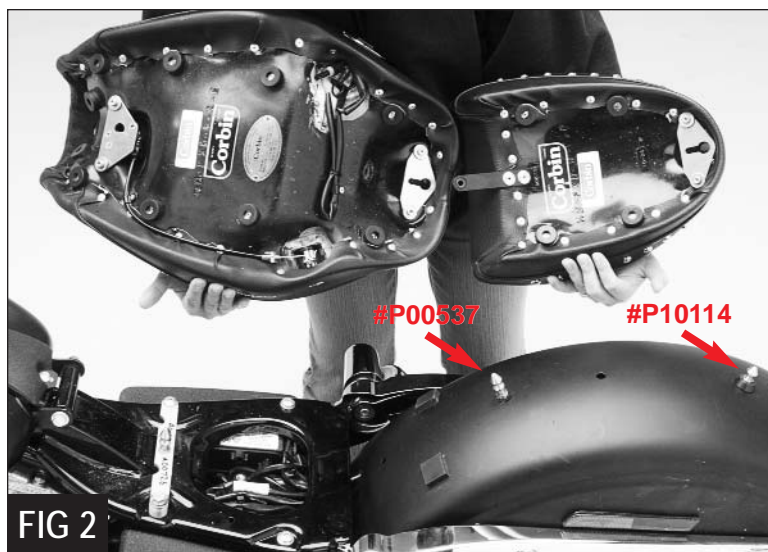

FIG 2
3. Install the latch pin (#P00537) and 1/4" lock washer into the first hole on the rear fender. See *Figure 2*.
4. If using the pillion pad, install the rear latch pin (#P10114) and nylon cap (#P00545) into the last hole on the rear fender. See *Figure 2*.